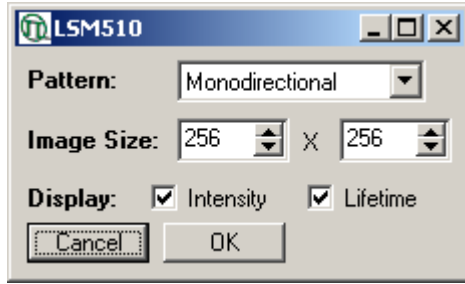

Fig. 3.6: SymPhoTime Pop-up window for LSM data acquisition.
2. **SymPhoTime software:** In the appearing pop-up window (see Fig. 3.6) you **set the scan pattern and the image size** in pixels analogue to the settings applied in the LSM510 software. Please note that the maximum image size is limited to 512 x 512 pixels. The “Display” settings let you choose which information should be displayed with the online image preview during data acquisition: Intensity information is displayed as brightness and lifetime as a special color, pixel per pixel. Finally press OK to start the LSM data acquisition.